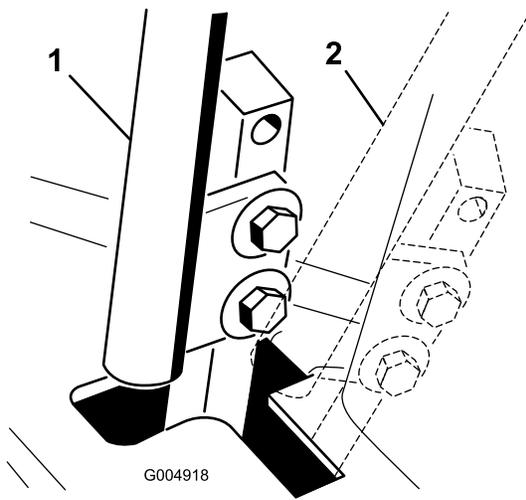

**Figure 85**
5. Pull the lever back until the clevis pin (on an arm above the pivot shaft) contacts the end of the slot (just beginning to put pressure on the spring) as shown in Figure 85.
7. If adjustment is needed, loosen the nut and jam nut against the yoke (Figure 85).
8. Applying slight rearward pressure on the motion-control lever, turn the head of the adjustment bolt in the appropriate direction until the control lever is centered in the NEUTRAL-LOCK position (Figure 85).
9. Tighten the nut and jam nut (Figure 85).
10. Tighten the jam nuts at the ball joints (Figure 85).